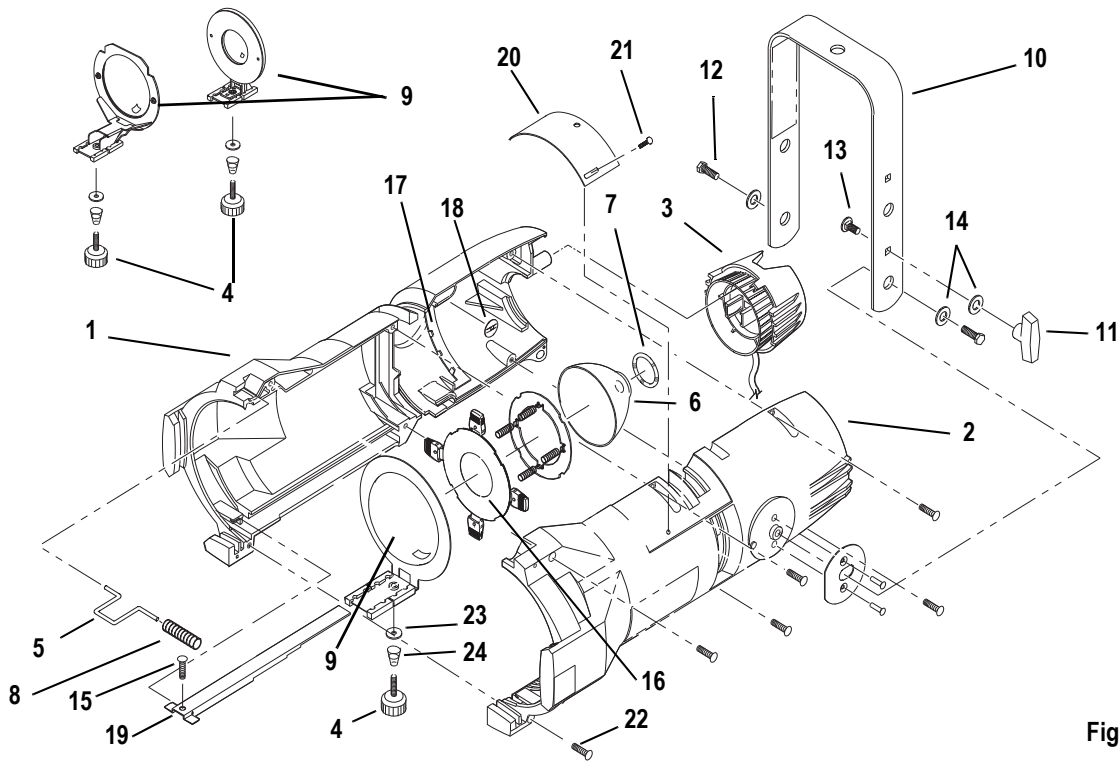

Figure 1
- Step 1: See Figure 1. Place the left barrel casting (1) open side up on your work surface with the colorframe end to your right.
- Step 2: If necessary, place spring (17) (see over post in right and left castings (1 and 2). Secure with clip (18).
- Step 3: Place shutter assembly (16) (See “Assembling Shutters” on page 9.) into the shutter slot in left casting (1) with the rounded side of the shutter handles facing right (gel opening end of the fixture).
- Step 4: Install the short end (without the flattened notch) of the gel retainer clip (5) in the left casting (1).
- Step 5: Position clip (5) in the forward, locked position, then install the retainer spring (8) on the clip.
- Step 6: Snap spring (7) onto reflector (6) and place assembly into left casting (1) so that the front edge of the reflector is supported by spring (17). The spring (7) on the back rests in the left casting rear supports.
- Step 7: Gently set the right barrel casting (2) onto the left casting so that the gel clip retainer, shutter assembly and reflector assembly fit into their respective positions.
- Step 8: Starting with the corner nearest the gel clip retainer (5), attach the right casting to the left casting with screws (22). Do the right screws first, then the middle screws, then the left screws. Hand tighten only (25 inch pounds).
- Step 9: Install the iris slot cover (20) onto the barrel assembly with screws (21).
- Step 11: Insert light baffle strip (19) through front of barrel assembly and through hole in lens holder assembly. Slide strip (19) through supports in front of fixture and install screw (15), spring (24), washer (23), and knob (4).